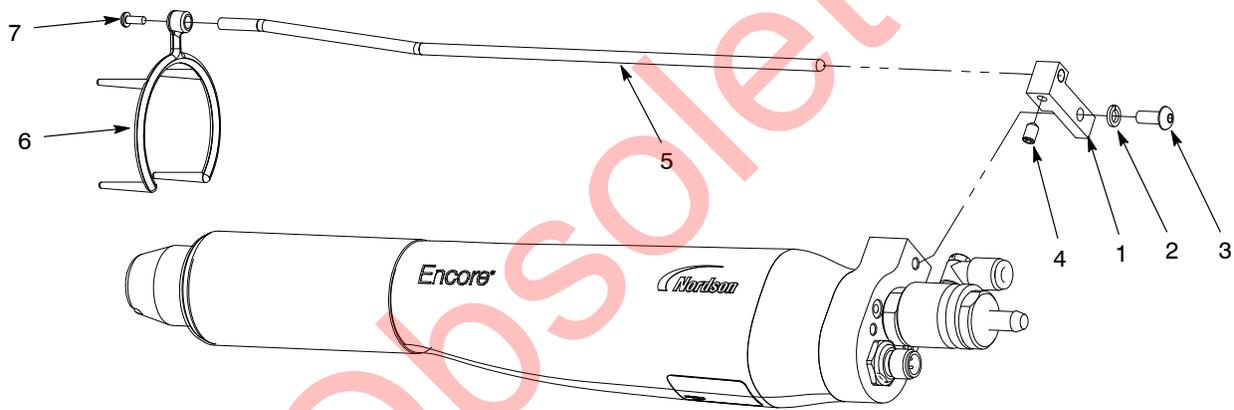

Figure 3-4 Ion Collector Installation – Flat Spray Nozzle Shown
1. See Figure 3-4. Install the mounting block (1) on the gun with the M5 lock washer and screw (2, 3).
2. Insert the collector rod (5) into the block and secure it with the M5 x 8 set screw (4) included in the ion collector kit.
3. Slide the multi-point tip (6) onto the nozzle nut and attach it to the collector rod with the M3 screw (7).
3. See Figure 3-4. Loosen the set screw (4) and move the multi-point tip away from the front end of the gun.